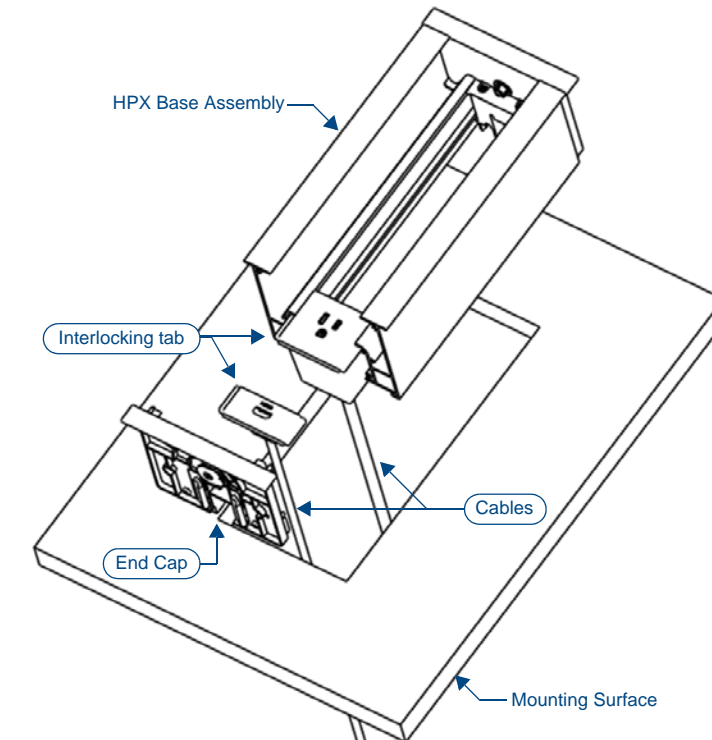

FIG. 5 Inserting the Modules into the Assembly
- For terminations for which the far end of the cable is not accessible (either because the cable has been run under carpet, in a conduit or structure, or is otherwise fixed), the cable must be placed through the cutout in the table prior to installation, as indicated in FIG. 5.
Note the orientation of each HPX Module - a small tab exists on one side of the faceplate of each module. Ensure all tabs are facing the same direction (see FIG. 5).